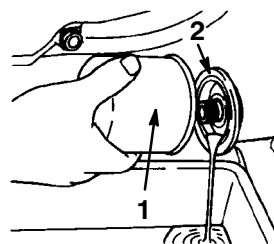

Figure 36
5. Place a suitable drain pan under the oil filter connection (Fig. 36).